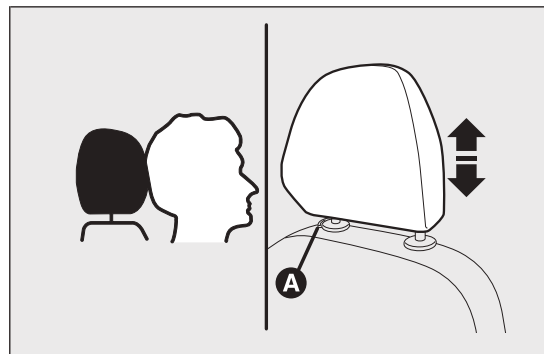

fig. 18
- Downward adjustment: press button A fig. 18 and lower the head restraint.